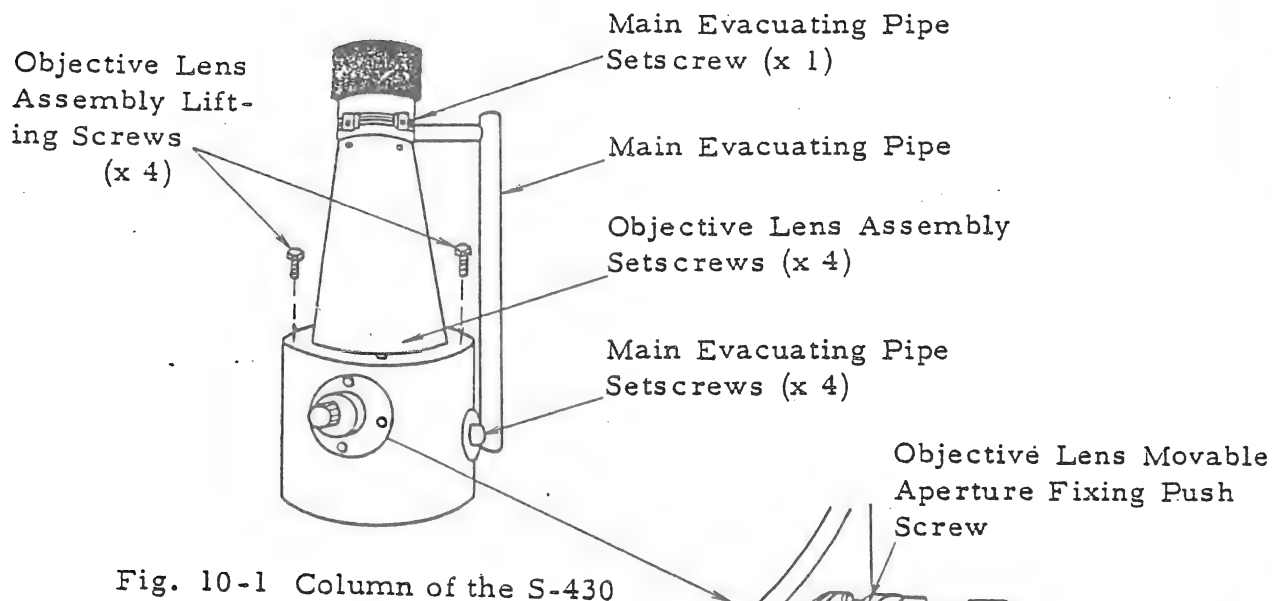

Fig. 10-1 Column of the S-430
- (1) For the method of cleaning the condenser lens aperture, see the instruction manual.
- (2) Cleaning of objective lens fixed aperture
- (c) Detach four setscrews of the objective lens assembly. See Fig. 10-1.
- (d) Detach the main evacuating pipe by removing one upper and four lower setscrews of the pipe. See Fig. 10-1.
- (f) Evenly screw in the attached four objective lens lifting screws into the four holes other than the objective lens mounting screw holes, and lift the upper part of the column by separating it from the objective lens assembly. See Fig. 10-1.